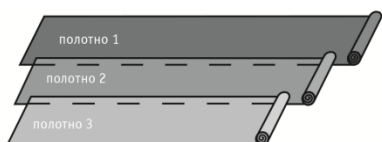

Figure 2
9.1 Untuck a TARKETT PVC floor covering sheet and roll it into a roll with the upper side in according to the layout (see Fig. 2). Start folding the unrolled sheet into a roll from the last sheet.